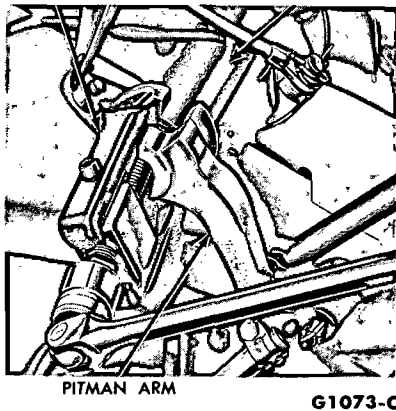

FIG. 6—Removing Pitman Arm
1. Raise the front of the car onto safety stands. Remove the Pitman arm from the sector shaft (Fig. 6).